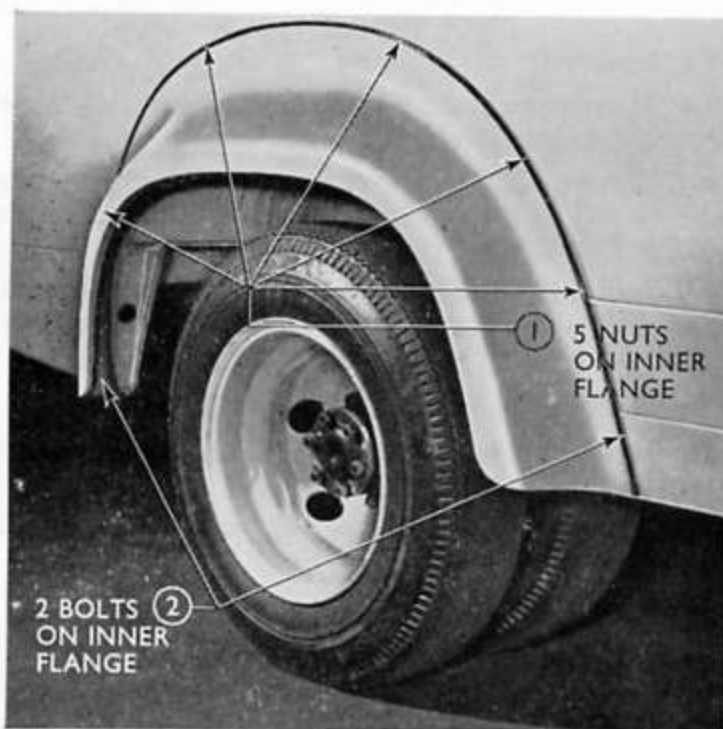

Fig. 14
1. Remove two bolts, spring and flat washers, one from each lower edge of the mudguard inner flange (see Fig. 14).
2. Remove five nuts, spring and flat washers situated around the mudguard inner panel (see Fig. 14).